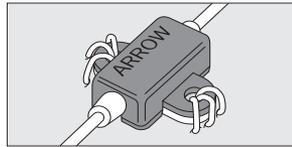

Figure 5
- Secure catheter clamp and fastener as a unit to patient by using either catheter stabilization device, stapling or suturing. Both catheter clamp and fastener need to be secured to reduce risk of catheter migration (refer to Figure 5).